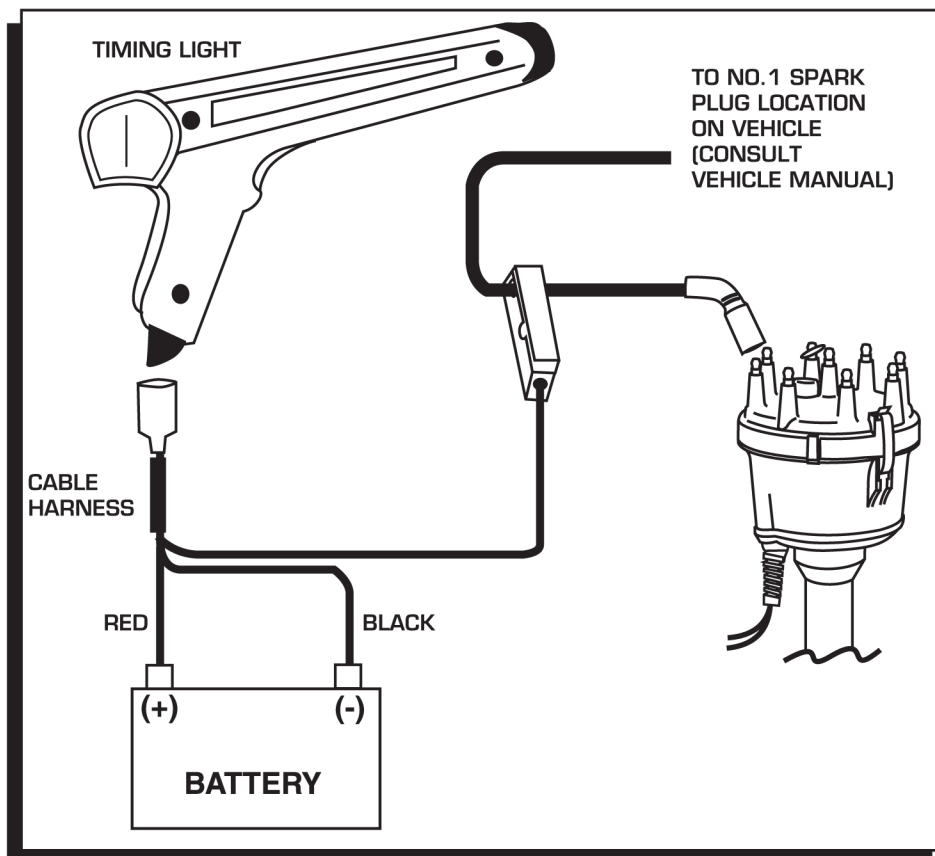
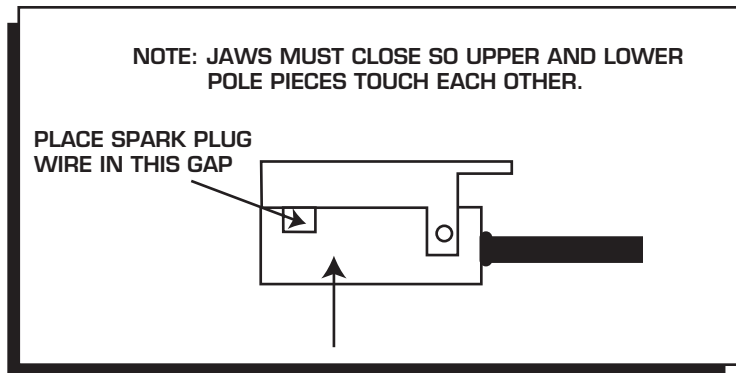

Figure 1 Wiring.
Figure 2 Inductive Pickup.
2. With the engine off, connect the Black clip to the negative (-) terminal on the battery. Connect the Red clip to the positive (+) terminal on the battery or to the main power wire on the alternator (Figure 1).
3. Clamp the inductive pickup over the number 1 spark plug wire (See Figure 1). The position of the inductive pickup does not matter but the wire must fit in the gap between the jaws of the pickup (Figure 2). Do not pinch the wire between the end of the jaws. Consult your vehicle's service manual to locate the number 1 cylinder on your engine.